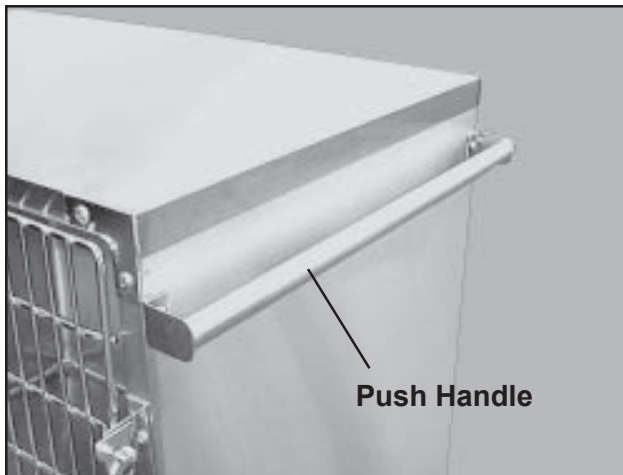

Figure 3. Push Handle Mounted on Cage
4. With the same two screws, mount the handle to the transport cage (Figure 3).